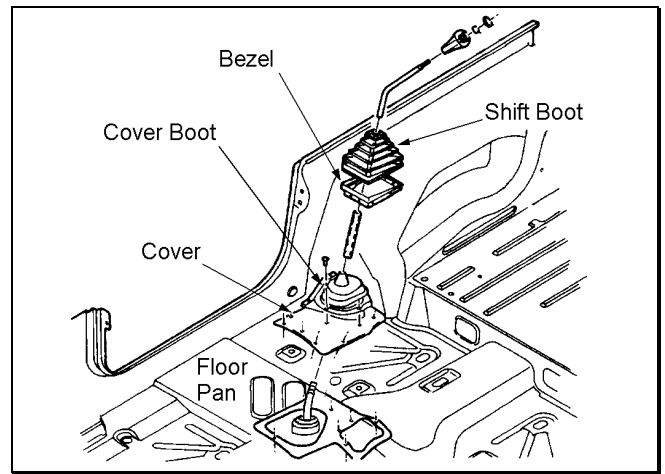

Figure 21
2) Pry up the shift boot and bezel from the floor console. See figure 21.